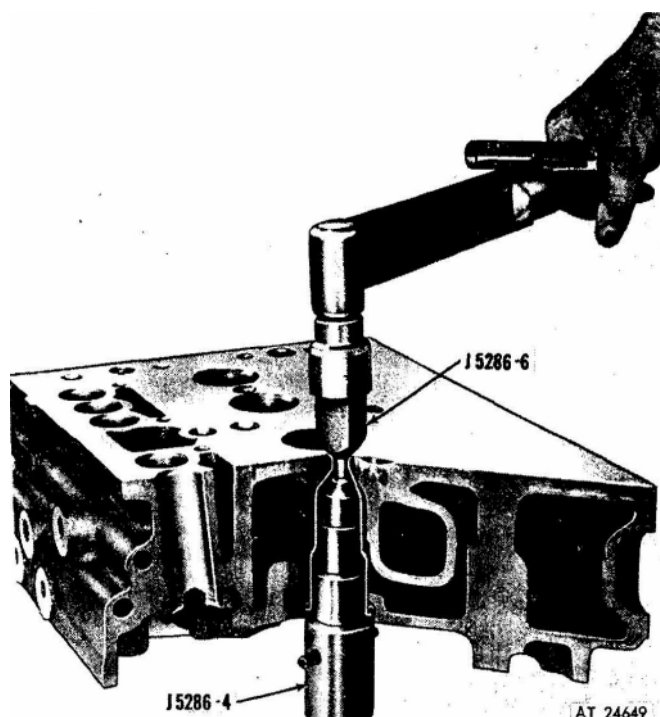

Figure 3. Upsetting injector tube with installer J 5286-4 and Die J 5286-6.
- a. Turn the cylinder head bottom side up, remove the pilot J 5286-5 and thread the upsetting die J 5286-6 into the tapped end of the installer J 5286-4. (fig. 3).